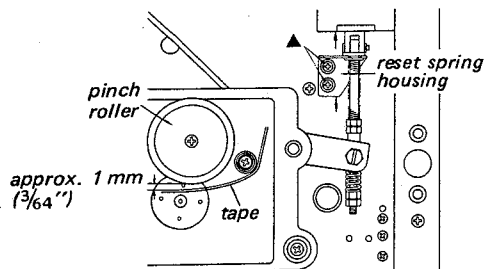

Fig. 3-1-2. Reset spring housing adjustment
See Fig. 3-1-2.
- (1) Remove the Reel Panel. See "Cabinet Removal" in page 6.
- (2) Thread a tape.
- (3) Check for approx. 1 mm ($\frac{3}{64}$ ") clearance between the tape and the Pinch Roller in the fast forward and the rewind mode. If necessary, loosen the two screws marked ▲ in Fig. 3-1-2, and adjust the position of the Reset Spring Housing by moving in the directions shown by the arrows.
- (4) After the adjustment, apply lock paint to the adjusting screws.